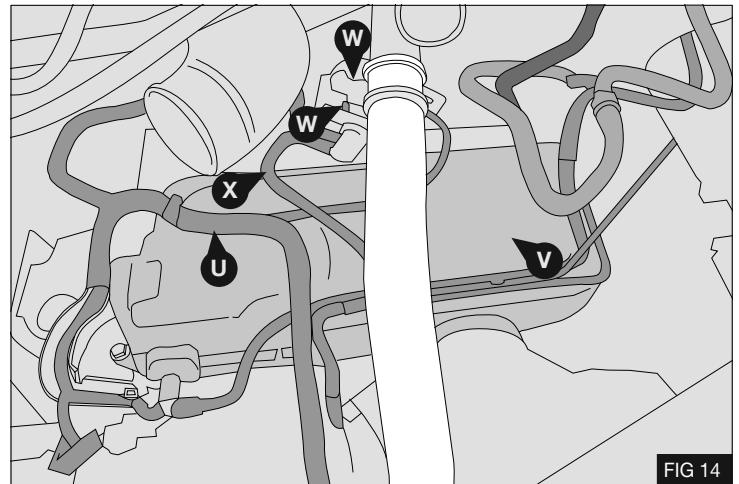

FIG 14
3. Remove clips holding the wiring and hoses **(U)** to the injector cover **(V)**. Undo 2 nuts **(W)** holding the Solenoid Valve and remove the lower vacuum hose **(X)** - Fig 14